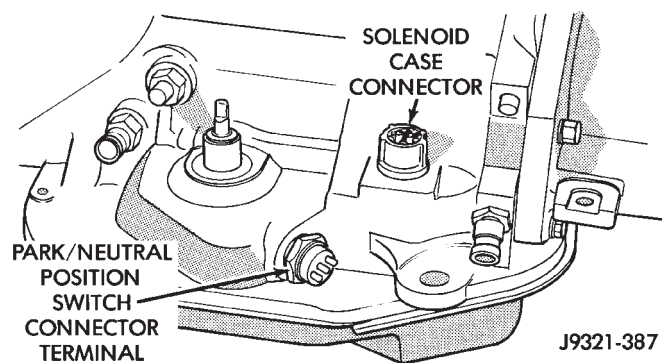

Fig. 27 Transmission Case Connector
- (1) Shift transmission into NEUTRAL.
- (2) Raise vehicle.
- (3) Remove gearshift and throttle levers from shaft of valve body manual lever.
- (4) Disconnect wires at solenoid case connector (Fig. 27).
- (5) Position drain pan under transmission oil pan.
- (6) Remove transmission oil pan and gasket.
- (7) Remove fluid filter from valve body.
- (8) Remove bolts attaching valve body to transmission case.
- (9) Lower valve body enough to remove accumulator piston and springs.
- (10) Work manual lever shaft and electrical connector out of transmission case.